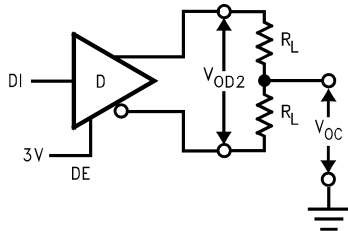

Figure 2. Driver V_{OD2} and V_{OC}
| V_{OD2} | Differential Output Voltage (Termination Load) | $R_L = 50\Omega$ | (422) | See Figure 2 | 2.0 | 2.8 | | V |
| V_{OC} | Driver Common Mode Output Voltage | $R_L = 27\Omega$ | (485) | See Figure 2 | 0 | | 3.0 | V |